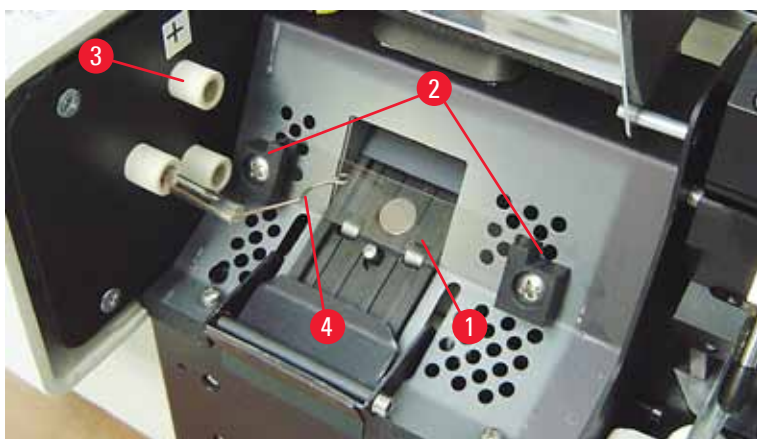

Fig. 17
5. Make sure the contact spring (→ "Fig. 16-2") is removed from the priming wire (→ "Fig. 17-4") of the bulb (See also (→ "Fig. 17") and (→ "Fig. 18-1")).